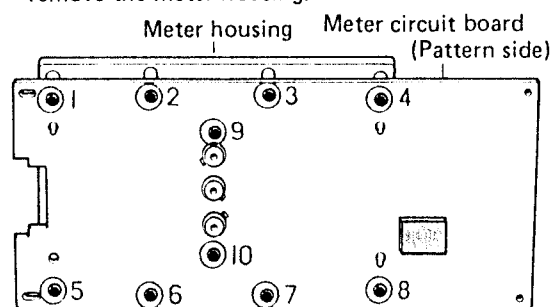

Fig. 6
- b. Remove the plastic rivets ① through ⑧ in Fig. 6 from the back side of the meter circuit board and remove the meter housing.
- d. Remove plastic rivets ⑨ and ⑩ in Fig. 6 and remove the lamp reflector.